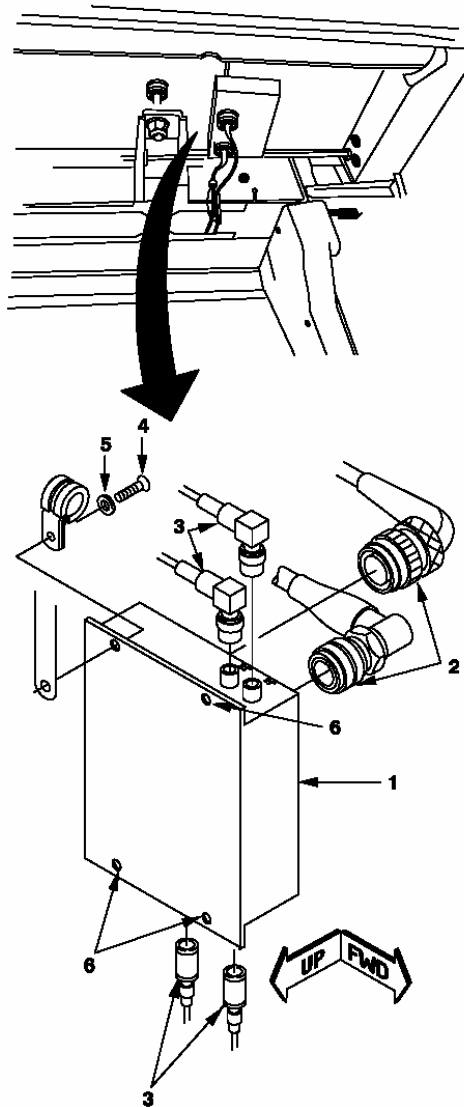

Figure 12
(1) Open forward overhead circuit breaker panel.
(2) Remove wires from cargo release switch and cap wires.
(3) Using black paint or equivalent, cover cargo hook switch label on outside of circuit breaker panel.
I. Remove FM Comparator. (See Figure 12.) (CDS2 aircraft)
(1) Gain access to comparator (1) on inside roof of helicopter.
(2) Disconnect two electrical connectors (2) and four coax connectors (3) from comparator (1).
(3) While supporting comparator (1), remove one screw (4) and washer (5).
(4) Loosen three captive screws (not shown) (6) and remove comparator (1) from helicopter.
(5) If ARC201 radio is installed, remove stand-off coupler 2304A3.
(6) Replace connector (2304Z2P5) on cable (2ARC186-103A(7)) with new connector (part number M3912/17-0502, NSN 5935-01-046-2037).
(7) Remaining coax cables will be removed from helicopter during removal of FM Antenna Coupler in step m.
(8) Retain and secure electrical connectors.